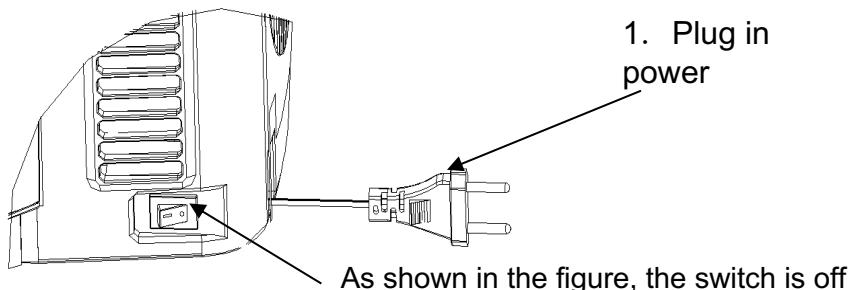

FIGURE 10
12. Cover the top cover (see the label on the top cover for details). Set the power switch to "-" to start the power supply of the beer machine, and the beer machine starts to work (set the power switch to o to turn off the power supply) (as shown in Figure10).